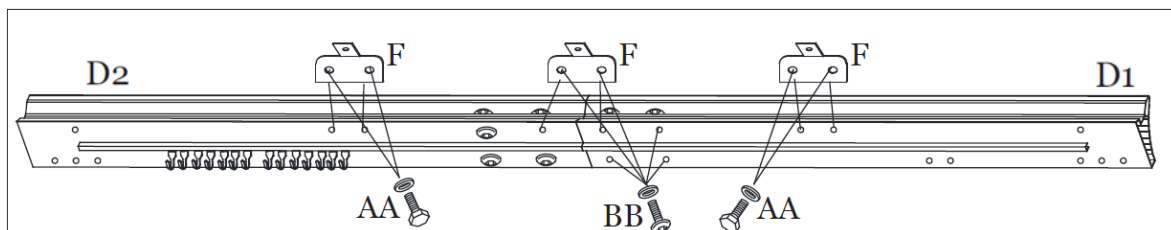

Figure 2-3
Step 2C: Attach Long Lintel (D1) to Lintel Connector (G2) using Bolts (BB). Attach outside Lintel Brackets (F) to Long Lintel (D1 and D2) using Bolts (AA). Attach inside Lintel Bracket (F) to Long Lintel (D1 and D2) using Bolts (BB). **Tighten all Bolts.** Repeat Step 2A to 2C for remaining Long Lintels (D1 and D2). See Figure 2-3.